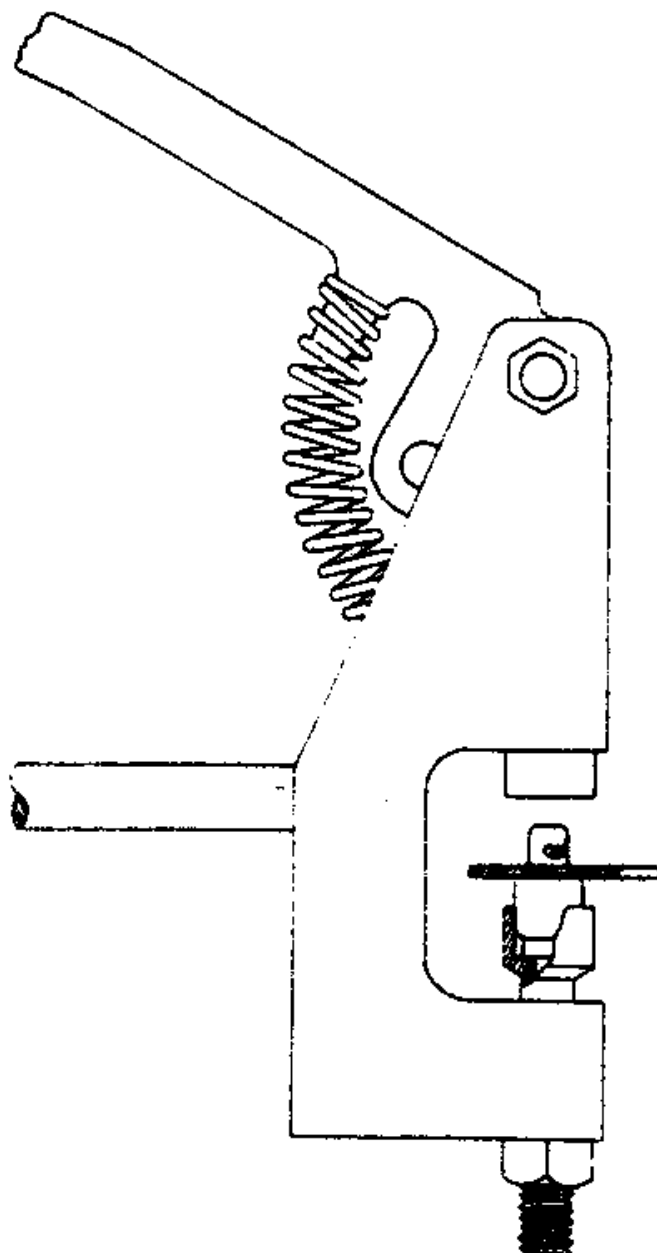

Figure 5 - Installation of Pre-Assembled Stud Assemblies using a Hand Squeeze Installation Tool
5.3.3 Install **pre-assembled** stud assemblies using a Dzus TP35AHT or DFCI Solutions Inc. 9916-35-AHT hand squeeze installation tool as follows (see Figure 5):